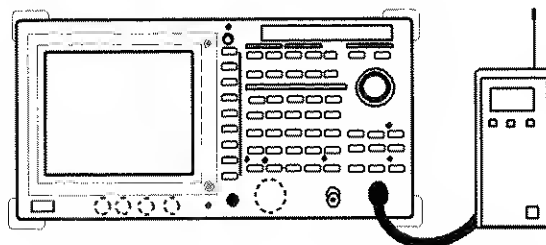

Figure 2-80 Setup for the Average Power Measurement
1. Connect the unit under test as shown in Figure 2-80.